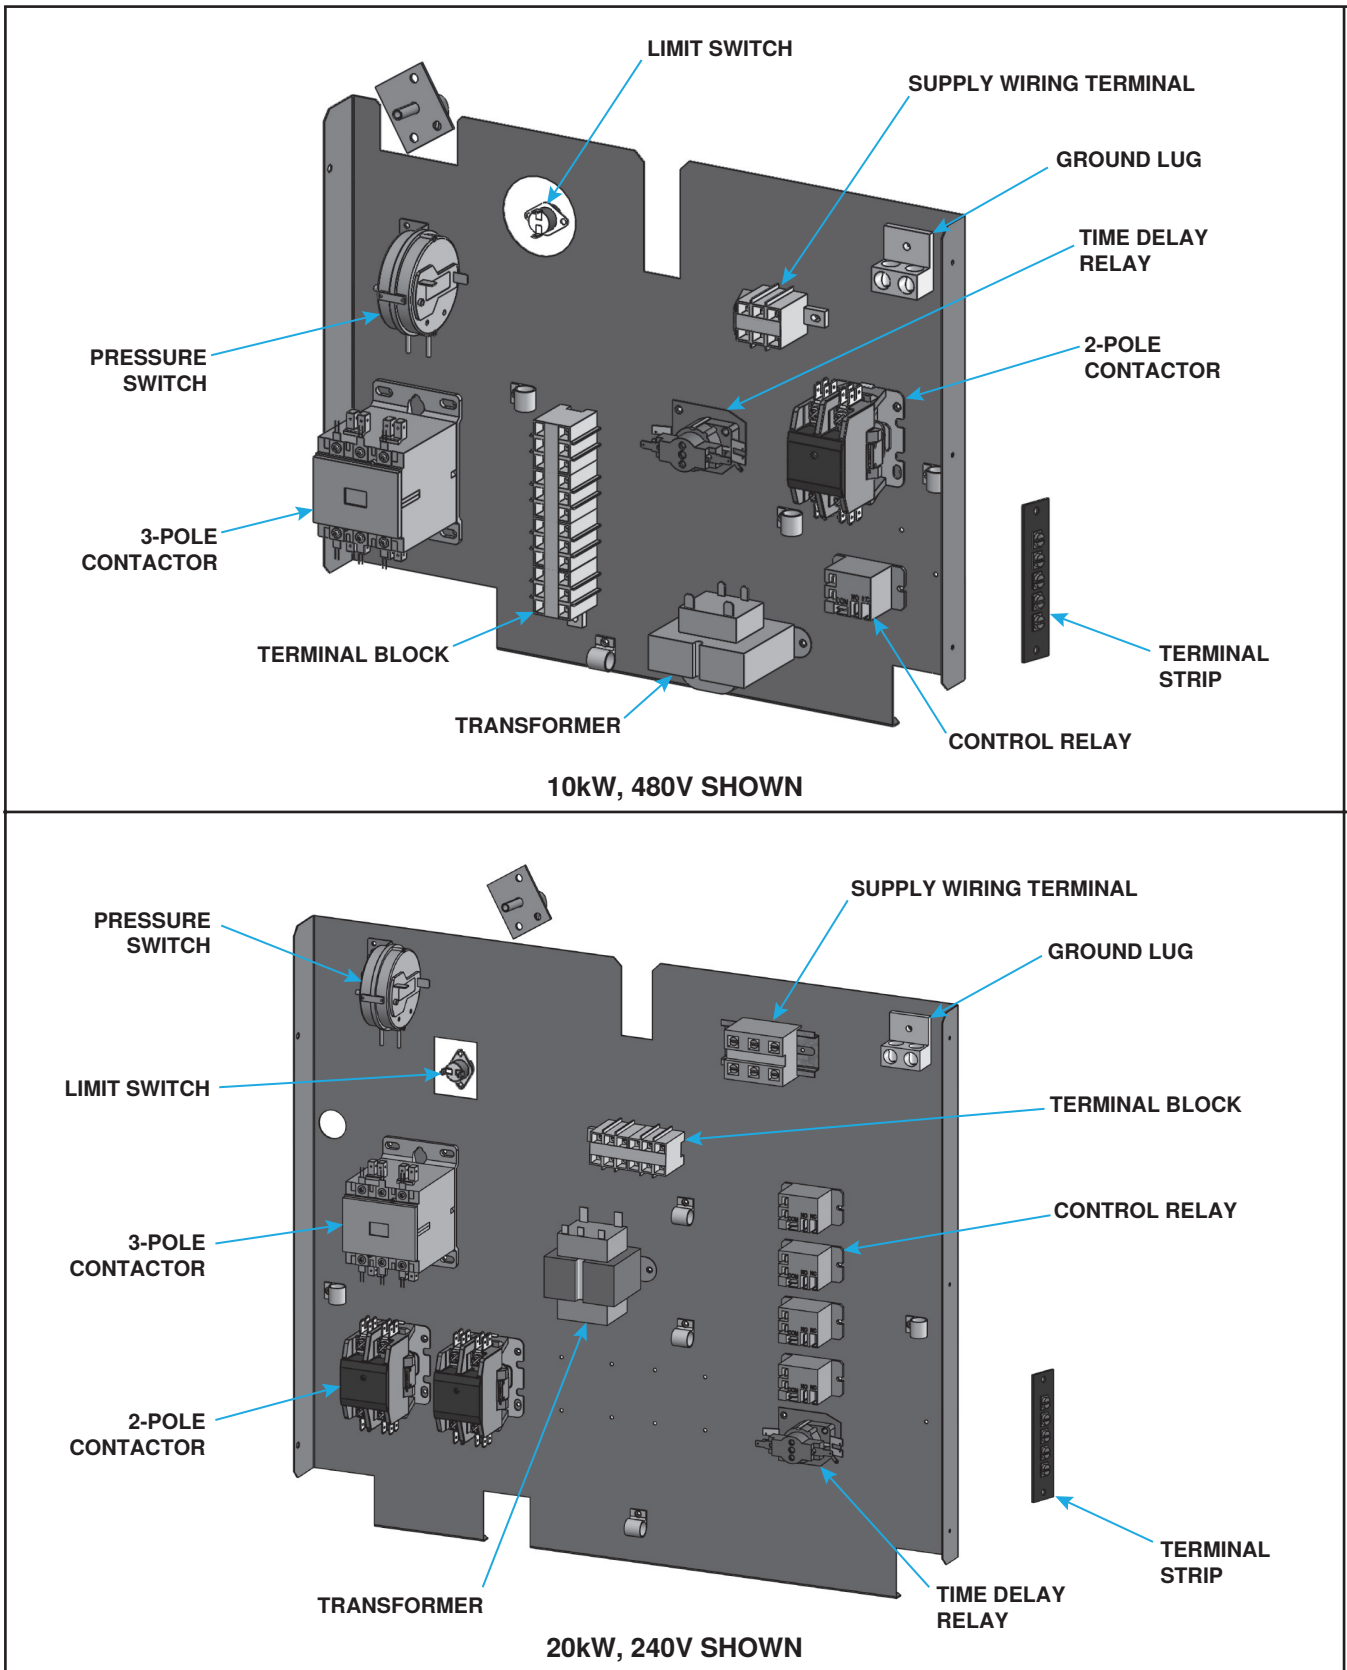
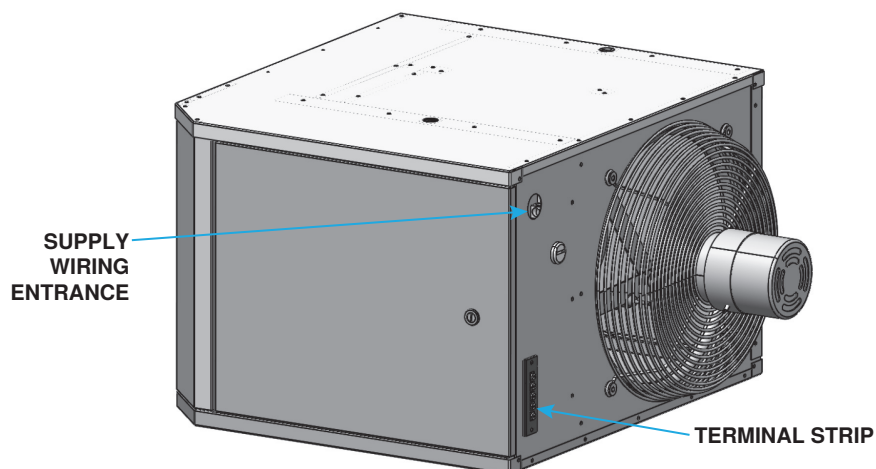

Figure 6. Typical Control Panels
Figure 7. Supply Wiring Entrance and Control Connection Terminal Strip
- (1) Loosen terminal screws T1, T2, and T3 on 3-pole contactor (see Figure 6) terminals.
- (2) Disconnect black wires from T1 and T2 terminals and connect them to T3 terminal.
- (3) Tighten all terminal screws.
- Route supply wiring through entrance shown in Figure 7 and connect to supply wiring terminal block shown in Figure 6).
- The terminal strip for 24V control connections is located on the outside of the cabinet at the back of the unit, as shown in Figure 7. The strip has five terminals: C, R, G, W1, and W2. The thermostat connections are the C (optional), R, G, W1, and W2 (optional) terminals.
All units are equipped with a normally-open automatic-reset air proving pressure switch (see Figure 6) that senses air pressure provided by fan operation. The switch is factory-set and is non-adjustable. When the setpoint is satisfied, the switch allows electric supply to the heating elements. This safety device provides protection in the case of fan motor failure or lack of airflow due to a restriction at the inlet or outlet.
All units are equipped with a normally-closed temperature-activated, automatic-reset high temperature limit switch (see Figure 6). The switch is factory-set and is non-adjustable. If the setpoint is reached, the switch interrupts the electric supply to the heating elements. This safety device provides protection in the case of fan motor failure or lack of airflow due to a restriction at the inlet or outlet.